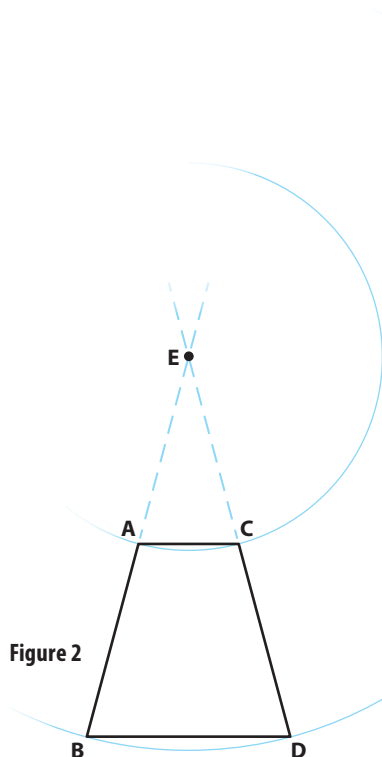

Figure 2
**4.** Set the dividers to the distance between E and A. Place one leg of the dividers at E, and draw a long arc intersecting A and C and extending to the right (**Figure 2**).